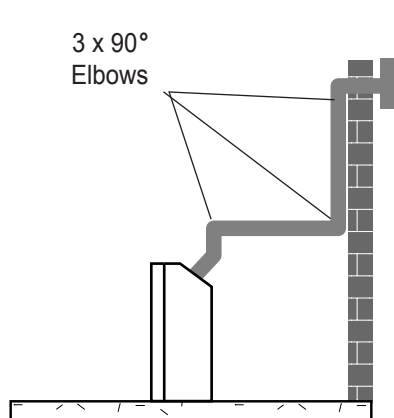

Figure 18 - Maximum Three (3) 90 Elbows Per Installation
- The maximum number of 90° elbows per side wall installation is three (3), the maximum horizontal run is 20" (Figures 18, 19).